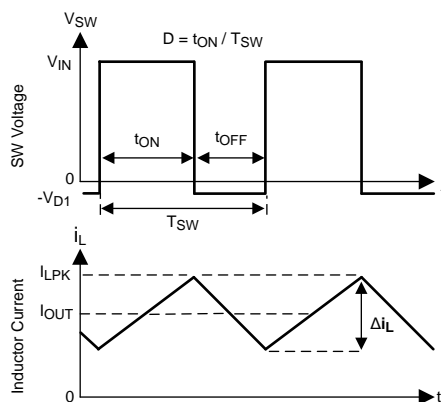

Figure 33. SW Node and Inductor Current Waveforms in Continuous Conduction Mode
The following operating description of the LM46000 refers to the Functional Block Diagram and to the waveforms in Figure 33. The LM46000 is a step-down buck regulator with both high-side (HS) switch and low-side (LS) switch (synchronous rectifier) integrated. The LM46000 supplies a regulated output voltage by turning on the HS and LS NMOS switches with controlled ON-time. During the HS switch ON-time, the SW pin voltage V_{SW} swings up to approximately V_{IN} , and the inductor current i_L increases with a linear slope $(V_{IN} - V_{OUT}) / L$. When the HS switch is turned off by the control logic, the LS switch is turned on after a anti-shoot-through dead time. Inductor current discharges through the LS switch with a slope of $-V_{OUT} / L$. The control parameter of buck converters are defined as duty cycle $D = t_{ON} / T_{SW}$, where t_{ON} is the HS switch ON-time and T_{SW} is the switching period. The regulator control loop maintains a constant output voltage by adjusting the duty cycle D . In an ideal buck converter, where losses are ignored, D is proportional to the output voltage and inversely proportional to the input voltage: $D = V_{OUT} / V_{IN}$.